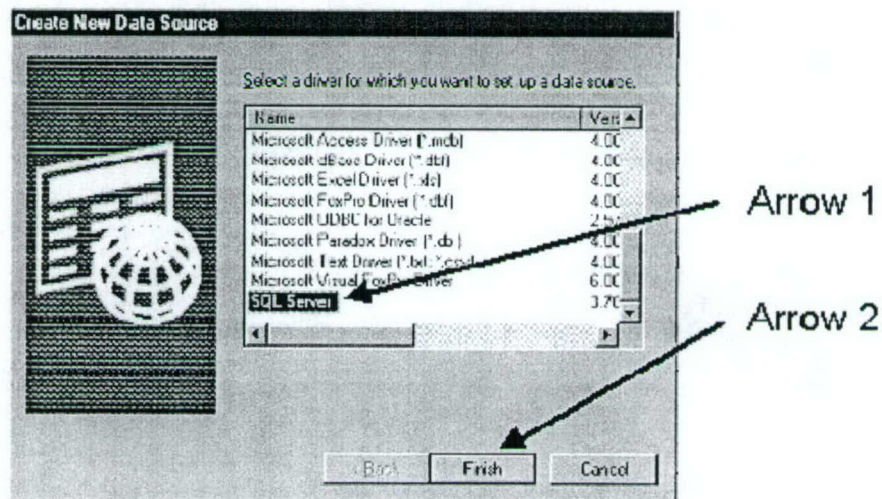

Figure B-2. Create New Data Source Window
6. Select "SQL Server" from the list of drivers for the data source (Figure B-2 – Arrow 1).
7. Click the "Finish" button (Figure B-2 – Arrow 2).